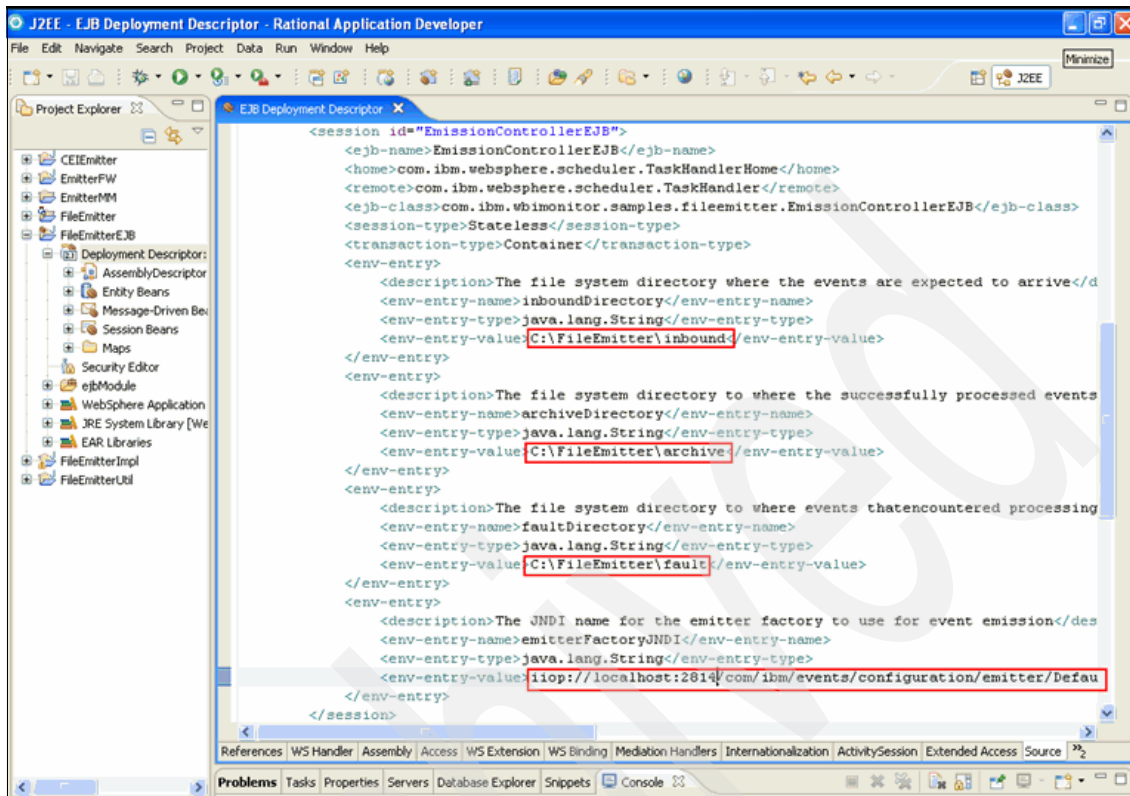

Figure 9-12 Modifying the FileEmitter EJB deployment descriptor
3. As shown in Figure 9-12 on page 615, notice the values for the inbound, archive, and fault directories. Replace the default values with the inbound, archive, and fault directories that you created earlier.